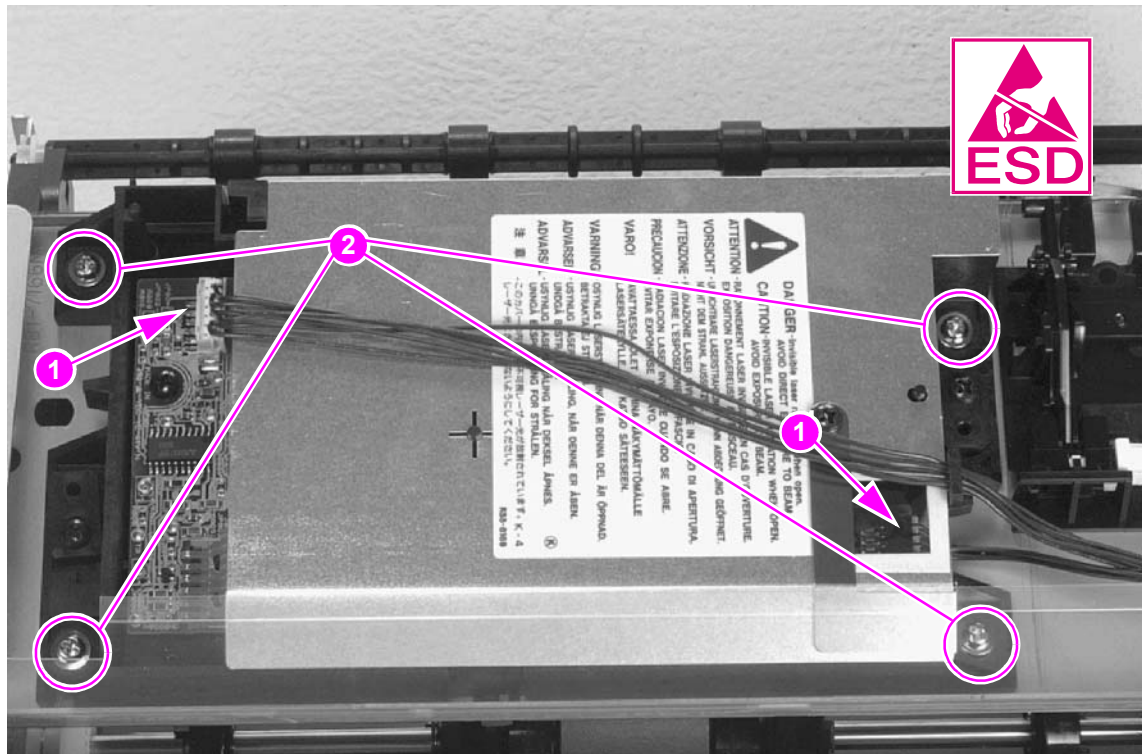

Figure 6-20 Laser/Scanner Assembly removal
- 2 Remove both Laser/Scanner connectors (Figure 6-20, callout 1).
The Laser/Scanner connect cable on the HP LaserJet 6L Pro is twisted (not shown in Figure 6-20).
- 3 Remove all (4) screws and lift the assembly straight off (Figure 6-20, callout 2).
The Laser/Scanner connect cable on the HP LaserJet 6L Pro should be twisted before reinstalling (not shown in Figure 6-20).